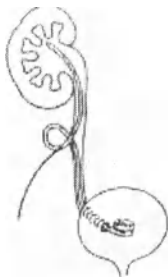

Fig. 4
6. Grasping the stent and wire guide, advance the stent through the same incision and into the renal pelvis (Fig. 4).